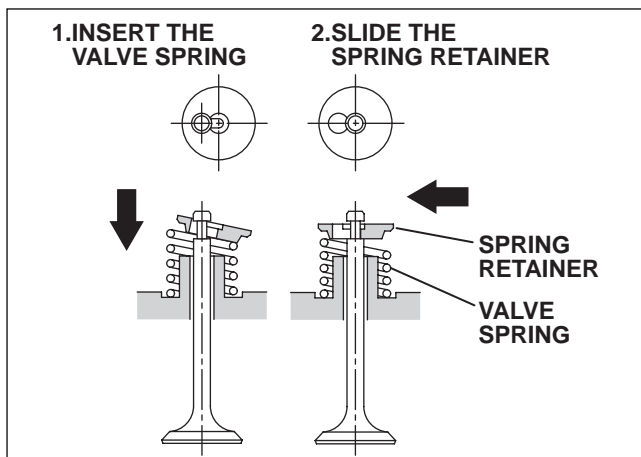

Fig. 5-26
- (1) Before reassemble, apply 4 cycle engine oil (10W-30) to cylinder inner surface, piston slide face and valve guide holes.
- (2) Install valve spring and spring retainer as shown in Fig. 5-26. Push spring retainer down until valve stem comes through the hole of spring retainer, then slide the spring retainer.